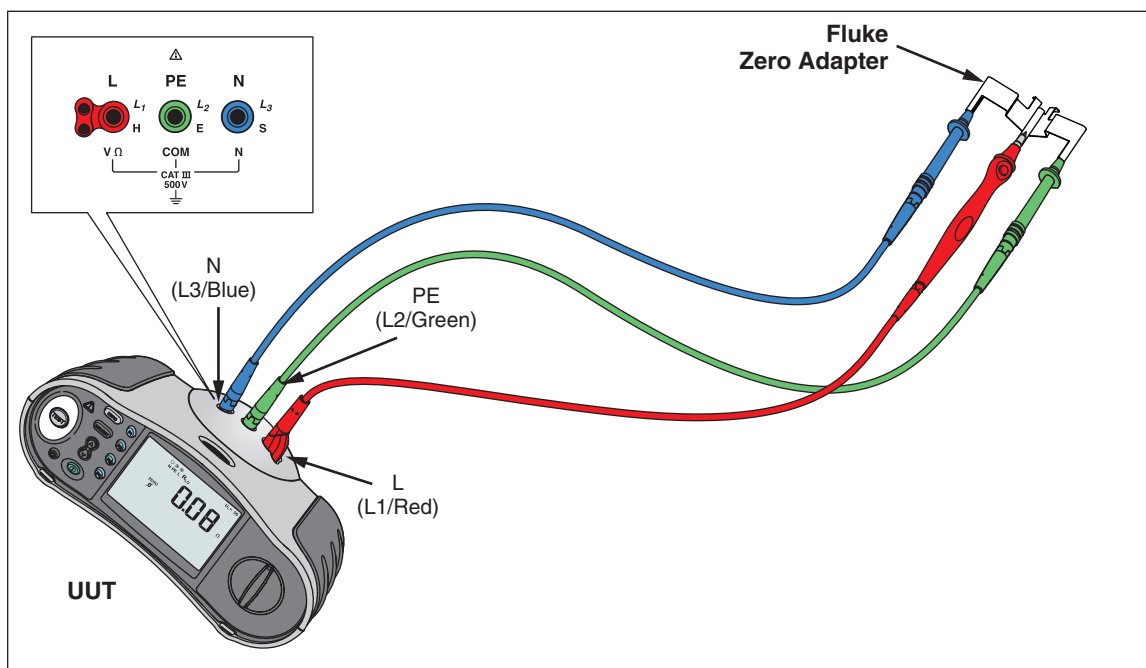

Figure 8. Loop Zero Tests
7. Short the far end of the test leads together with a Zero Adapter (Fluke P/N 3301338) See Figure 8.
6. Short the far end of the test leads together with a Zero Adapter (Fluke P/N 3301338) See Figure 8.